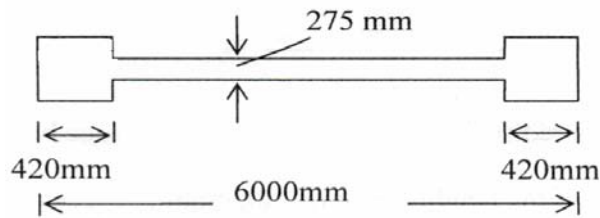

Fig.1 Shear wall
7. Design a shear wall of length 6 m and thickness 275 mm subjected to the following forces (fig.1). Assume moderate exposure condition. Assume  $f_{ck} = 30 \text{ Mpa}$  and  $f_y = 415 \text{ N.mm}^2$  and the wall is a high wall with the following loadings: Sketch the reinforcement details. [12]